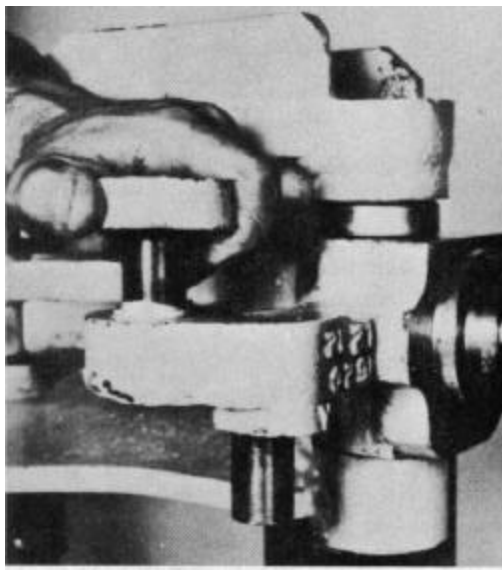

Figure 5-82
2. Pull the tie rod end up and off of the spindle mounting pin (Fig. 5-82). (Swing opposite wheel hub and tie rod will retract into axle weldment).